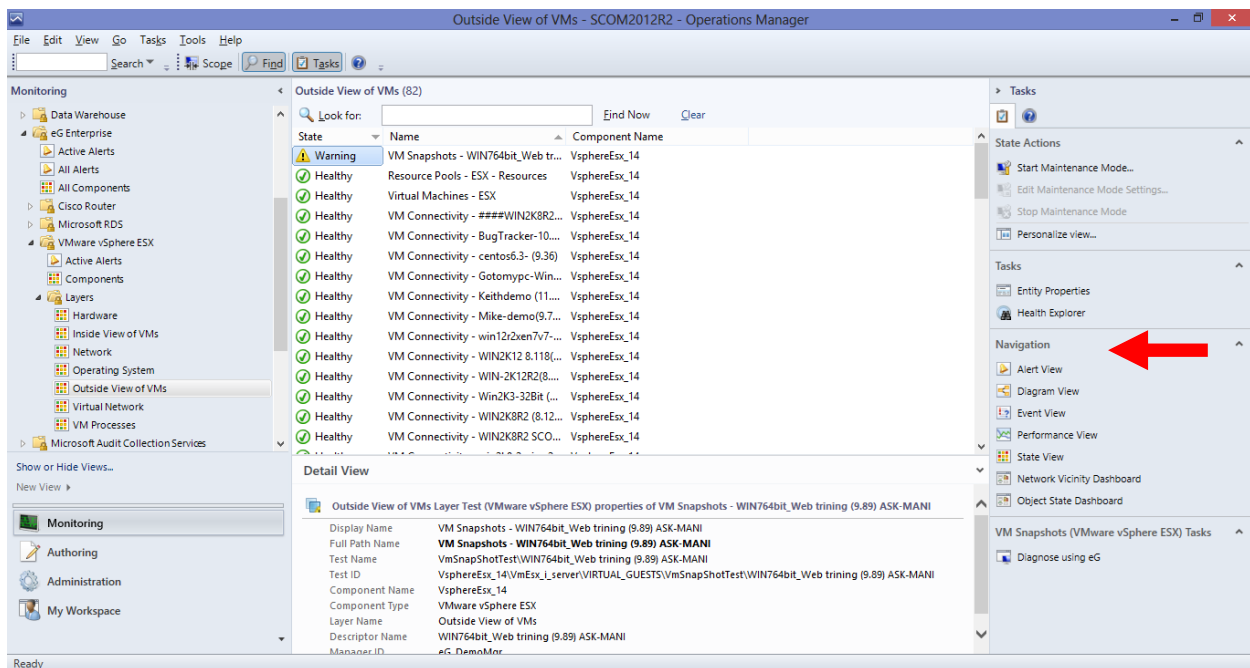
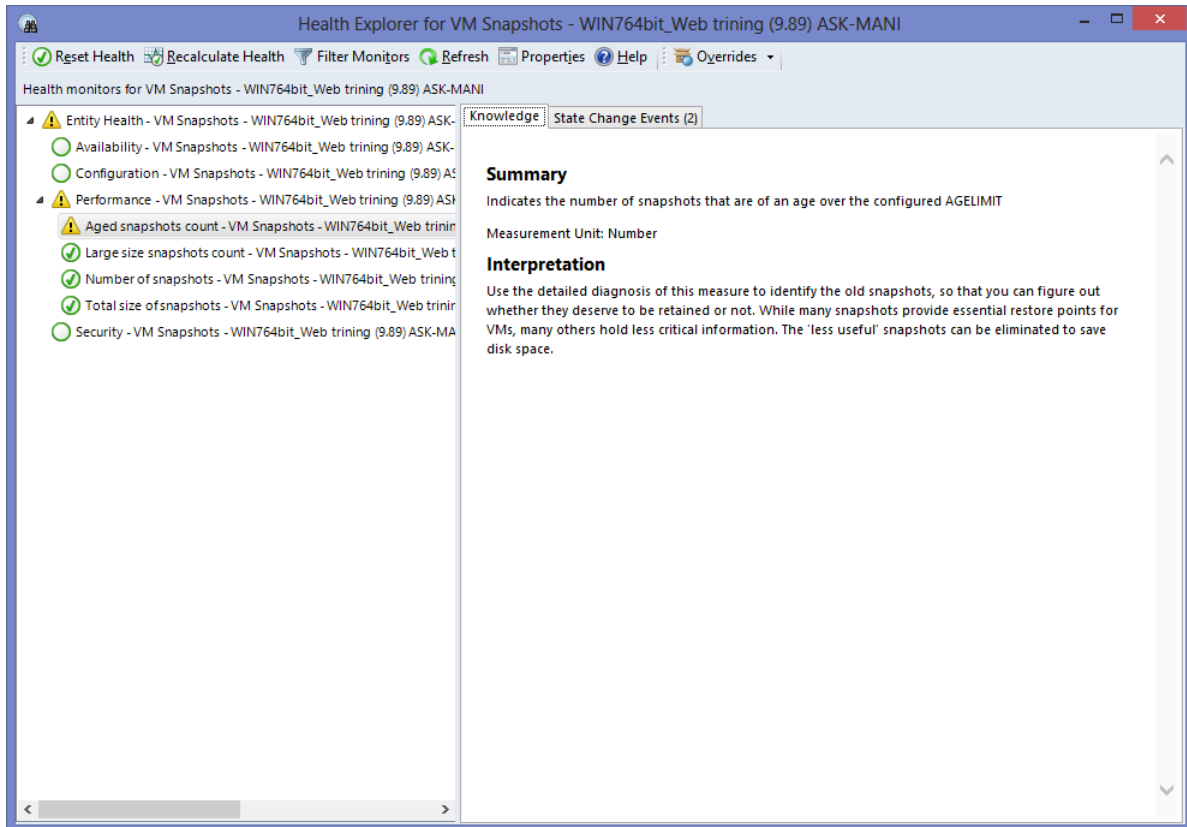

Figure 3.20: Clicking on the Health Explorer option of a test mapped to a particular layer
Figure 3.21: Health explorer for the VM Snapshots test mapped to the OutsideView of VMs layer of a VMware vSphere ESX server
- Figure 3.21 will then appear. As you can see, in the left panel of Figure 3.21, all the measures of the **VM Snapshots** test (that we had earlier selected from the SCOM console of Figure 3.20) are grouped under the **Performance** node (i.e., category) as monitors. From the left panel, we can clearly infer that the **Warning** on the **VM Snapshots** test is owing to a **Warning** alert on the **Aged snapshots count** measure of the test.